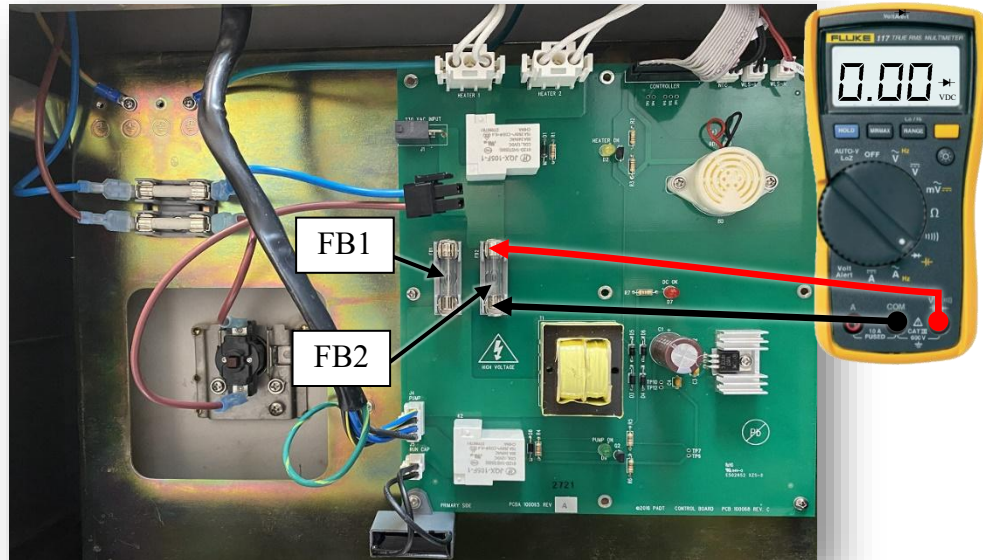

Figure 48 – FB1 and FB2
- e. Check the continuity of fuses FB1 and FB2 (*See Figure 48*).